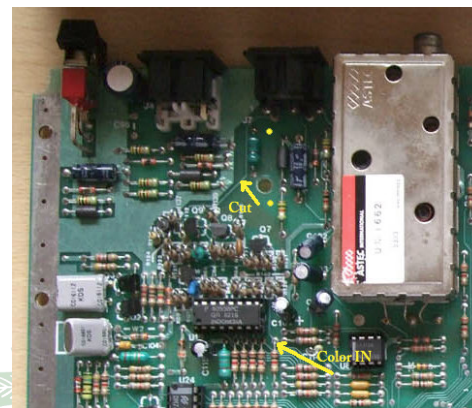

Figure 5: Color-in & trace cut in 600XL
4. Cut trace that labelled "cut" in Figure 5: Color-in & trace cut in 600XL